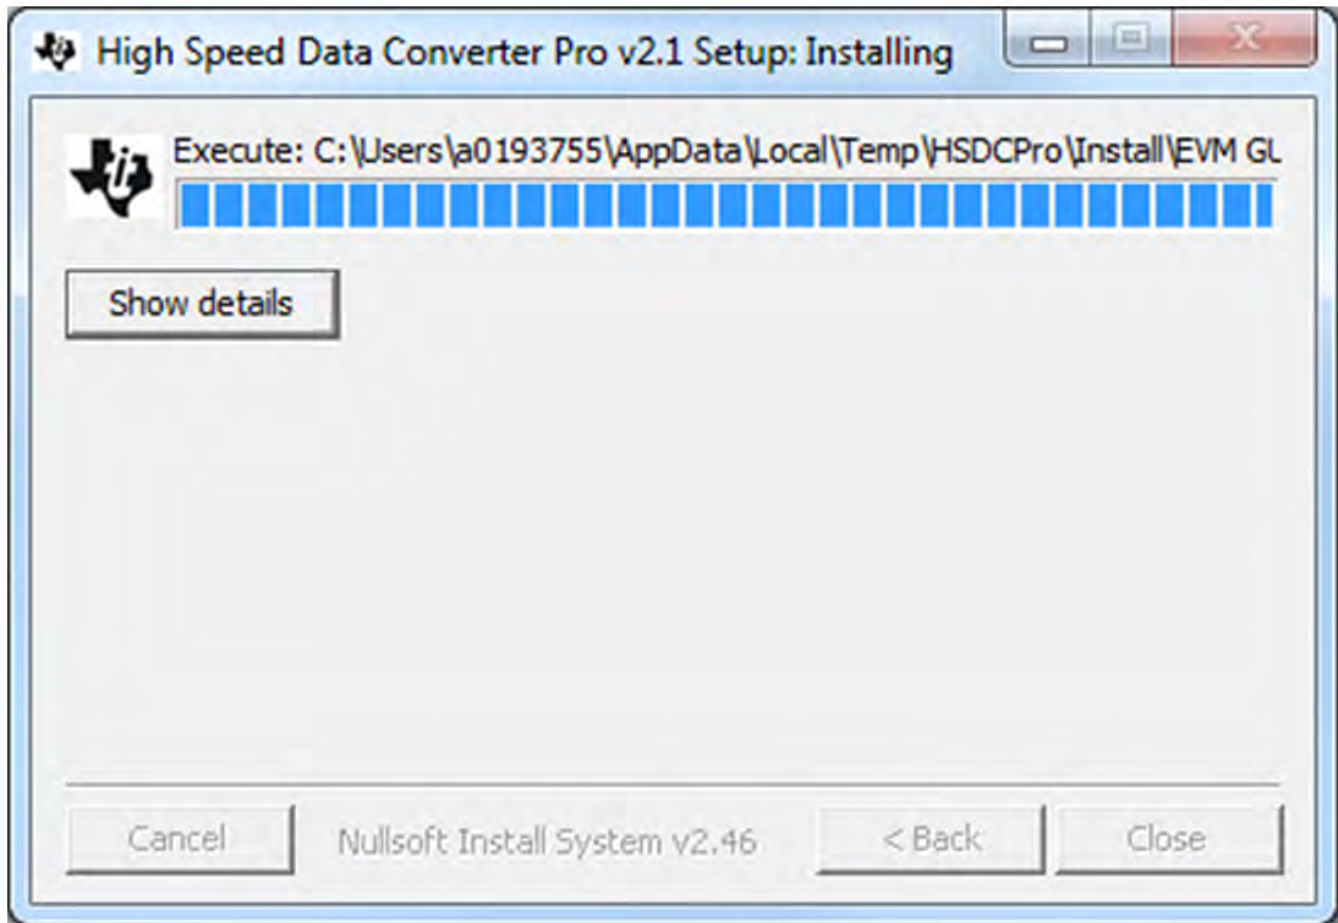

Figure 34. HSDCPro Install (h)
- The window shown in Figure 34 appears briefly to complete the process.